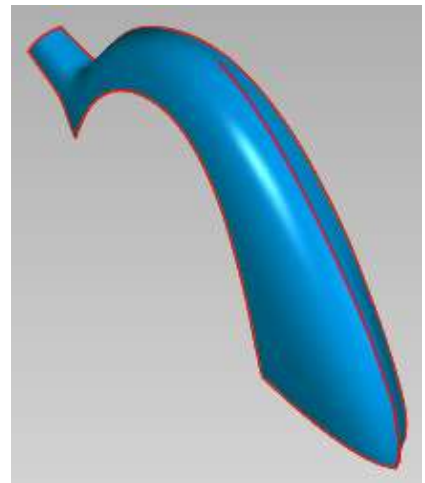

Figure 107
- Navigate to the training files folder and open **TR-08.wrp**, see **Figure 107**.